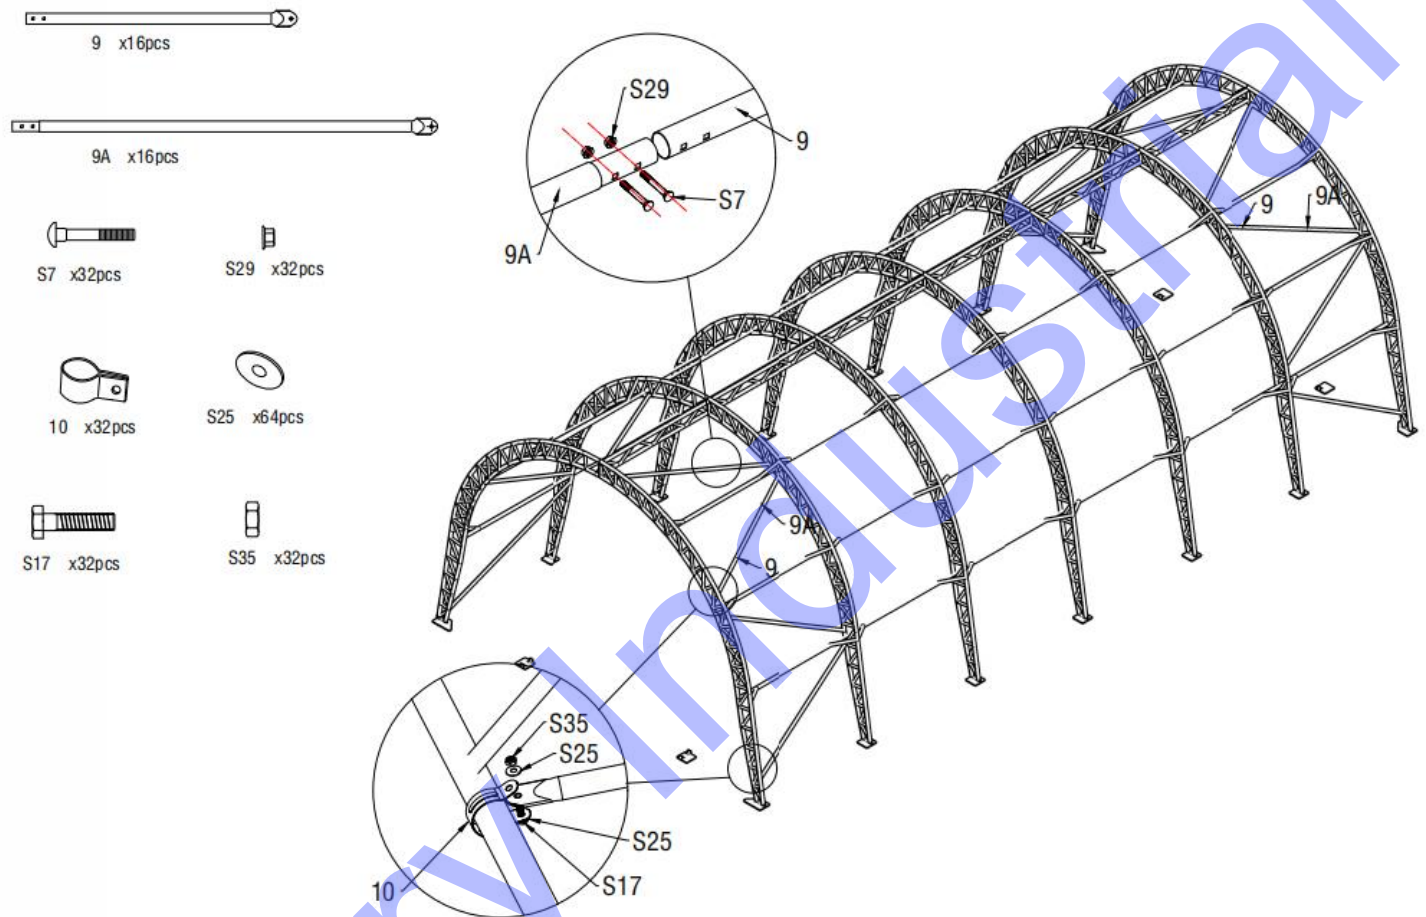

Figure 10
6. As figure 10 shown to find Diagonal Support Female Tube(No.9) and Diagonal Support Male Tube(No.9A) and assemble every group support tube with Carriage bolt M8x60(No.S7) and flange nut M8(No.S29). Then connect the diagonal support tube to arch by using clip(No.10).